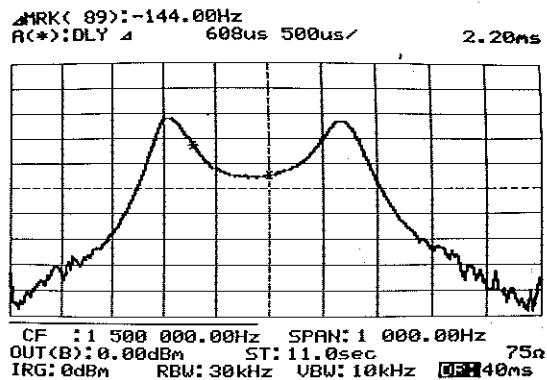

Fig. 3.21 ΔMarker
- 20 Read the measured values on the CRT. Note that, in this mode, the values at each display point on the CRT are not valid. Only the inter-point relative values (frequency response) are effective (Fig. 3.21). For that reason, absolute delay time must be measured in NORMAL mode.